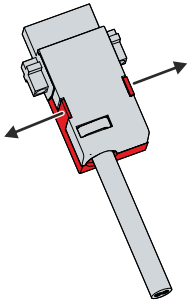

Fig. 22: Disassembly of the strain relief housing
1. Use your fingers to bend the latching lugs on the lower part slightly outward (see Fig. 22).